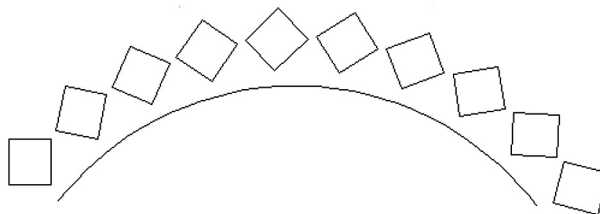

FIGURE 8.20
Step 5. You have essentially created the basic path array, but you can do a tremendous amount of modification to this basic layout. The easiest way to modify it is via the Ribbon. Under the Items tab you have the most basic of the “mods,” such as total number of items and the distance between them. Also note how you can alter the path array via dynamic movement of the grips. Be sure to keep the array associative, as with the previous examples. The completed array is seen in Figure 8.20.